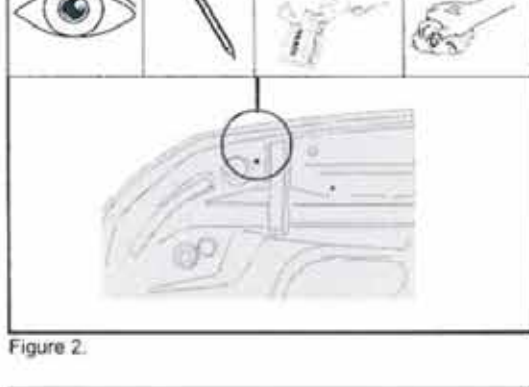

Figure 2.
2. Note the two outer holes in the underside of the hood. Clean the hood lip above these holes with the alcohol wipe provided and wipe with a dry clean cloth, as shown in figure 2.